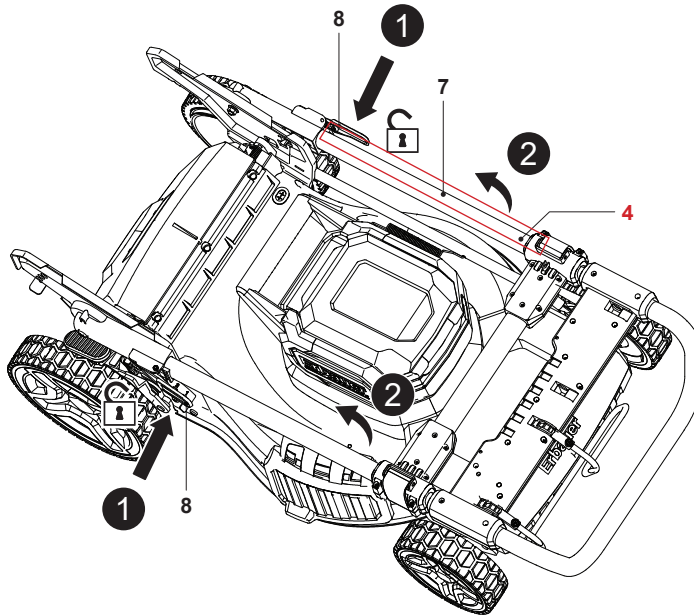

Fig. 1
1. Squeeze and disengage the two lock levers (8) on both sides of the lower handle bar (7) (Fig.1, step 1).
2. Hold the two lock levers (8) in position and fold up the handle assembly anticlockwise to leave its locking position (Fig. 1, step 2). Make sure that the control cord (4) runs on the lower handle bar (7).